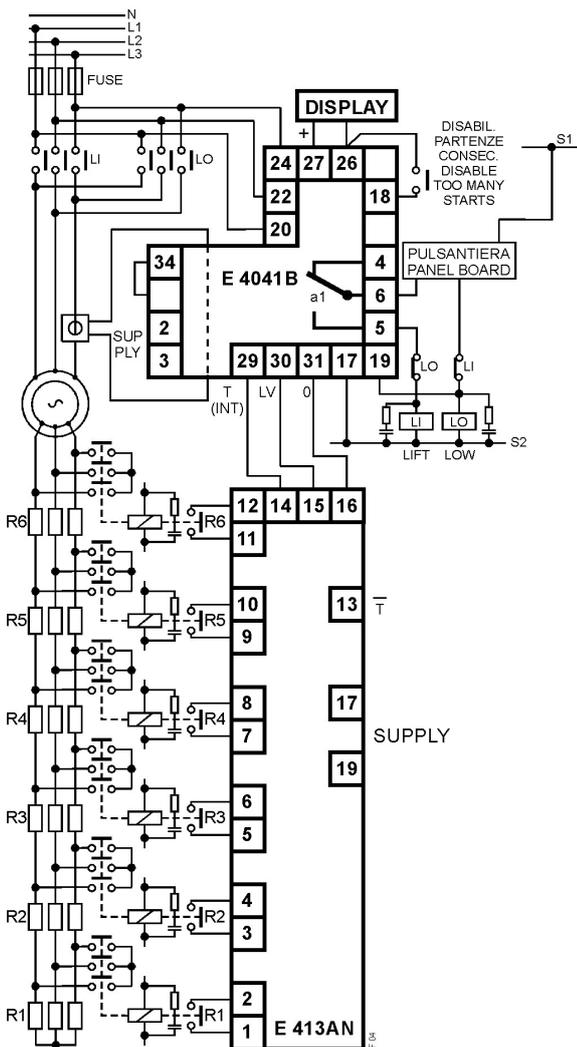

Fig. 4
Gli ingressi 31 (0V), 30 (L-V) e 29 (T) devono essere collegati alle rispettive uscite dell'E 413AN (v. Fig. 4).
I 6 ingressi dell'interfaccia E413AN (pin 1-2, 3-4, ecc) sono disaccoppiati otticamente dal resto della LOGICA e sono comandati da un contatto dei teleruttori che escludono le resistenze (v. fig. 4)-Corrente d'ingresso 4mA DC.
The wirings are as per fig 4 and caring that the CURRENT phase is connected to the pin 24. The device is connected to the three phase voltage, even when the motor does not work. Maximum section of the braid wires 2,5 mm², full wire 4 mm². (Wiring to an electrical board with a differential relay and sectionalizing switch). The length of every wiring of E 401-1B must be less than 30 m.
The inputs 31 (0V), 30 (L-V) e 29 (T) must be connected to the correspondent outputs of E 413AN (see Fig 4.)
The 6 inputs of the interface E 413AN (pins 1-2, 3-4, etc) are optically decoupled from the remaining logic and they are activated by a contact of the contactors excluding the resistances (see fig. 4) - Input current 4mA DC.
Example: application for an asynchronous slip ring motor and up to 6 resistance steps. (Fig. 4)
Può controllare con un unico modello, potenze da 1,5 kW a 21 kW - inserzione diretta. Per potenze superiori a 21 kW (40A), si dovrà ricorrere all'uso di TA esterni ./.5 (fig.4).
One model only can monitor powers ranging form 1,5 kW to 21 kW-direct insertion. For motor with powers higher than 21 kW (40A) external CT.../.5 have to be applied. (fig. 4). The device E 404-1-B+E 413A is installed inside the electric panel and it is not provided with mechanical components; so far it can be applied also on existing plants.